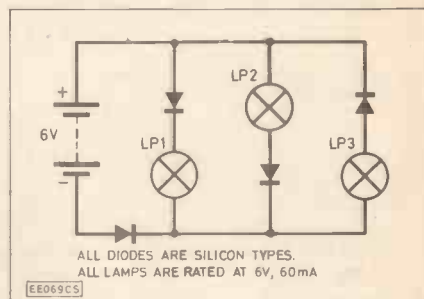

Fig. 3.29. Circuit diagram for Problem 3.1.
- Which of the lamps shown in Fig. 3.29 will be illuminated? (e)